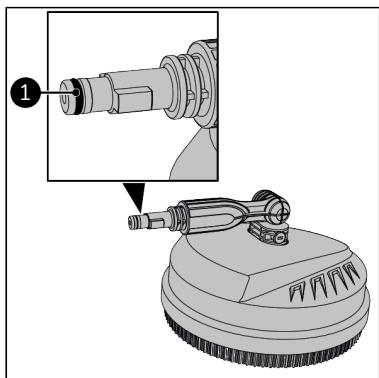

Figure 41.
4. Apply Vaseline to the O-ring of the floor cleaner (Figure 41, pos. 1).